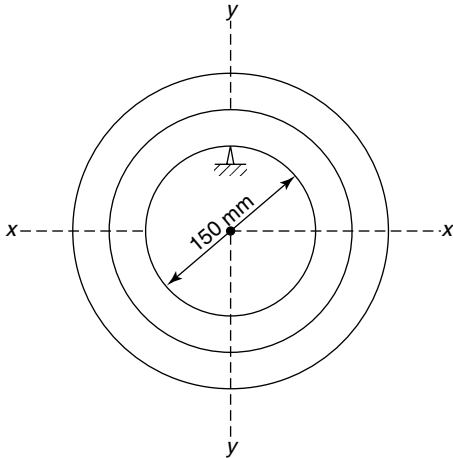

Figure 17.8
Figure 17.8, where the frequency of oscillation was found to be 1.26 Hz. If the mass of the ring is 10.5 kg, determine the mass moment of inertia about the centre of gravity,  $I_G$ . Take  $g = 9.81 \text{ m/s}^2$ .
By inspection of Figure 17.8,
4. What will be the value of the mass moment of inertia through the centre of gravity,  $I_G$ , for the compound pendulum of worked problem 4, if the inner diameter of the disc of Figure 17.8 were 100 mm? [0.0559 kg m2]